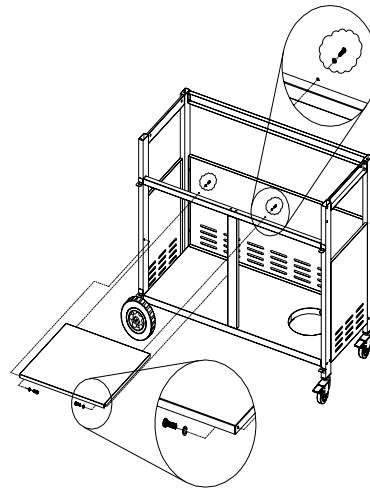

Figure 9
4. Attach the cart clapboard to the rear panel and front cart support using (4) 5/32 x 3/8" Phillips head screws and (4) 5/32" flat washers. (Fig.9)